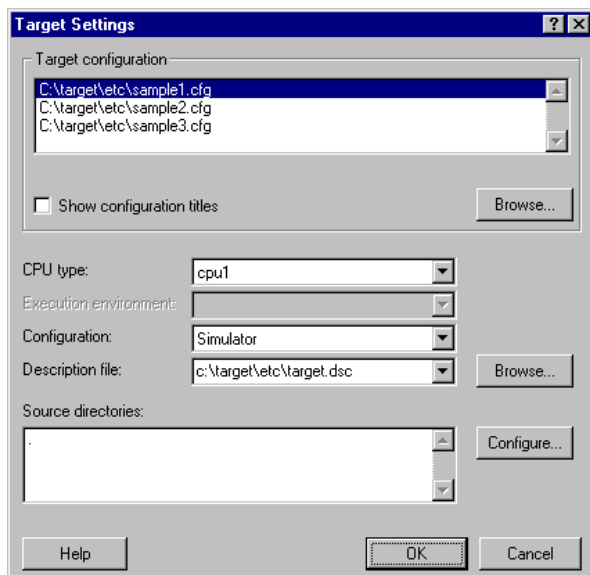

Figure 1-5: CrossView Pro Target Settings
- Select the Target | Settings... item from the menu. This option opens up the CrossView Startup dialog box as shown in figure 1-5.